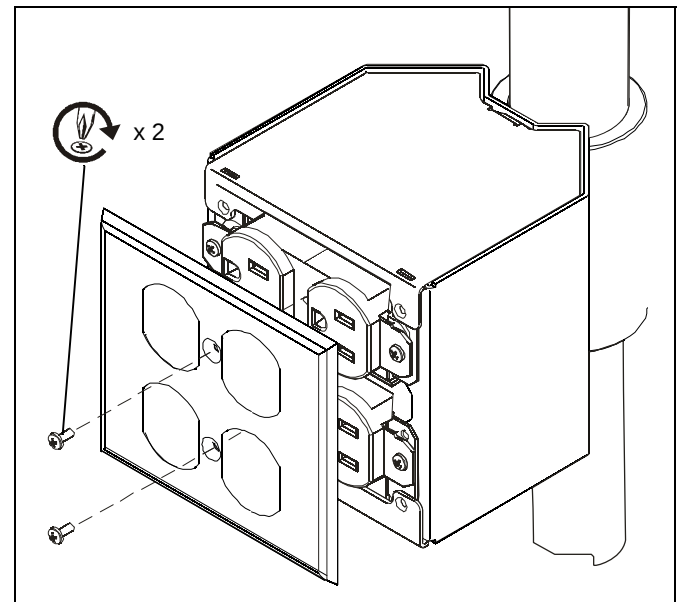

Figure 8
10. Secure cover (not included) to plug assembly using two screws (provided with cover). (See Figure 8)